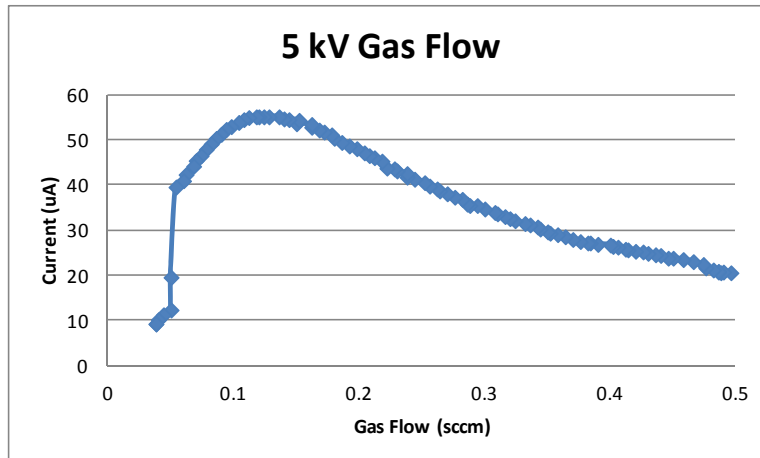

Figure 3-47 Operating characteristics of the PIG.
Note that as guns warm up, the beam current can drift. The guns should be warmed up for 10-20 minutes before setting the gas flow manually. The optimum gas flow changes with accelerating voltage, and it is necessary to adjust the gas flow whenever the accelerating voltage is changed. The curve in Figure 3-47 shifts to the right and increases in height as a gun warms up. If the curve shifts so that the operating point is far to the left of the peak, then it can be in an unstable region of the curve or the current may drop to an unusable level.
- 7. Adjust the right gun gas flow.** Find the gas flow correlating to the peak current. A typical curve relating gas flow to ion current is shown in Figure 3-47. The operating point indicated has been chosen because it gives the most focused beam and the highest milling rate.